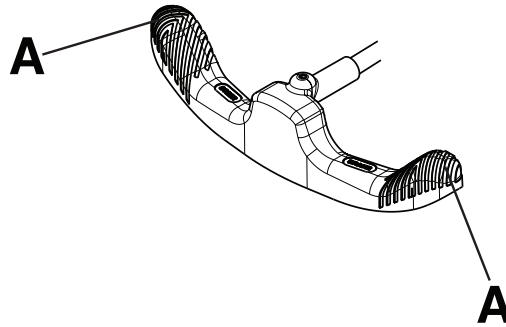

Figure 1 – Operating the brake/steer pedal
Note - Do not push down on the center of the brake/steer pedal. Always push down on the outer side (A) of the brake/steer pedal (Figure 1).